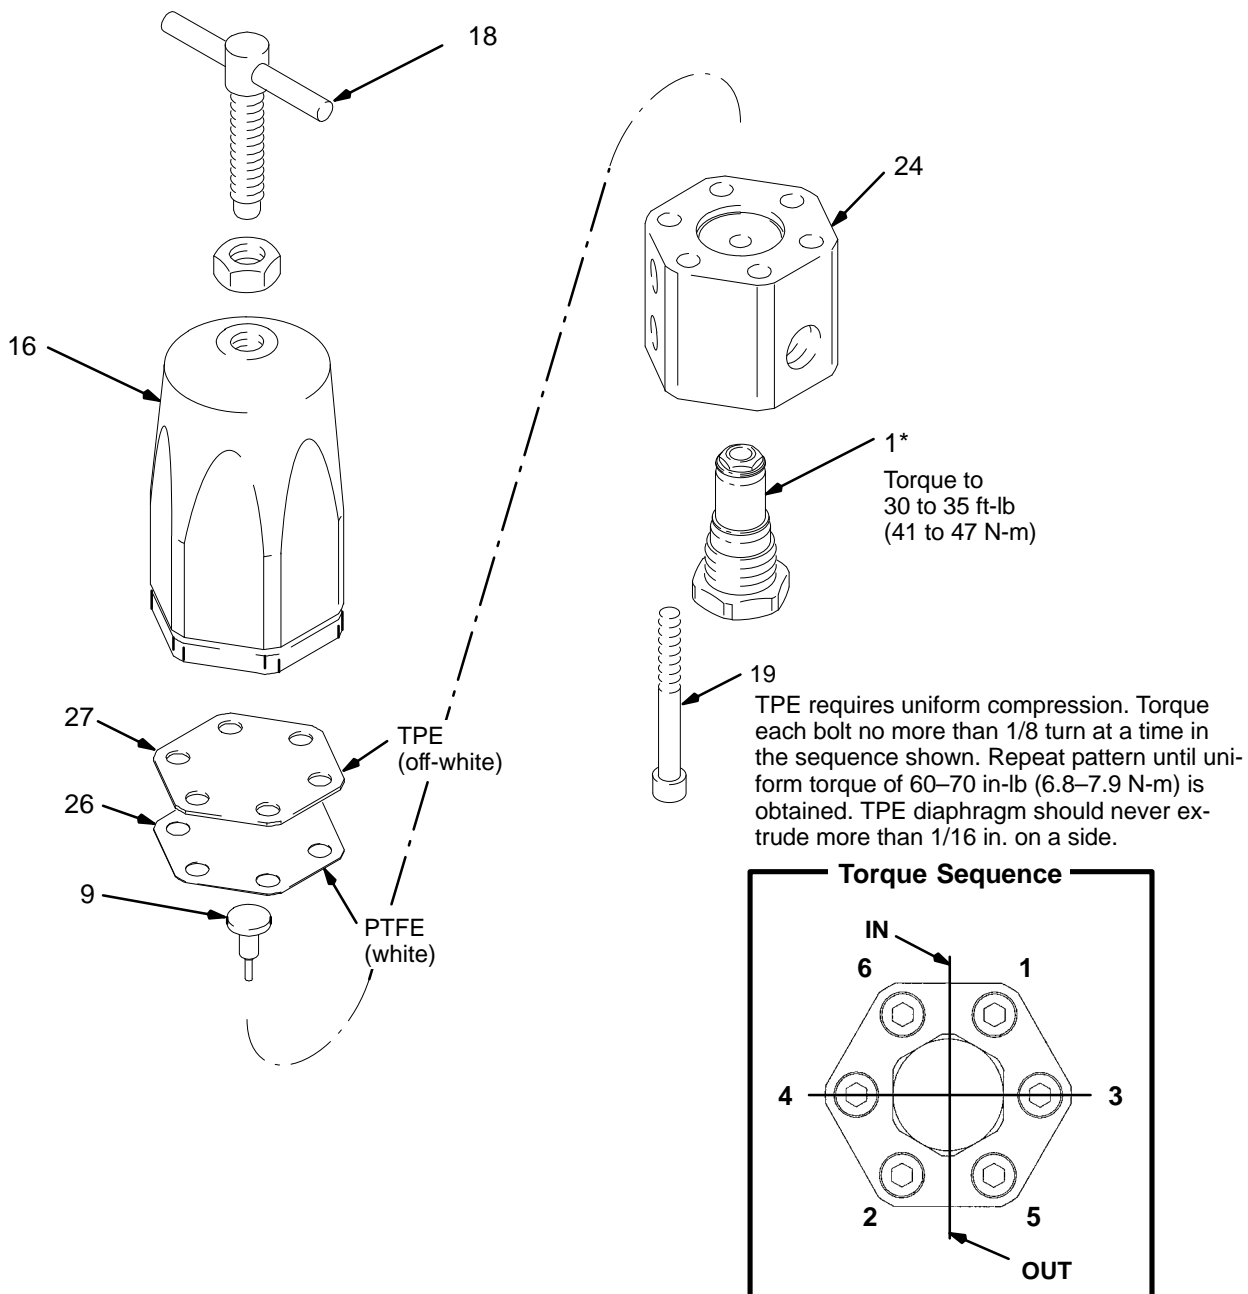

Fig. 2
3. Remove the six cap screws (19) from the regulator housing (24). See Fig. 2.
4. Remove the diaphragms (26 and 27). Inspect the carbide pin in the valve actuator (9) for wear. Replace if necessary.
5. Install the new diaphragms, with the PTFE diaphragm (26) facing toward the regulator housing (24), as shown in Fig. 2.
6. Install the valve actuator (9) and six cap screws (19). Torque the cap screws in the order shown in Fig. 2.